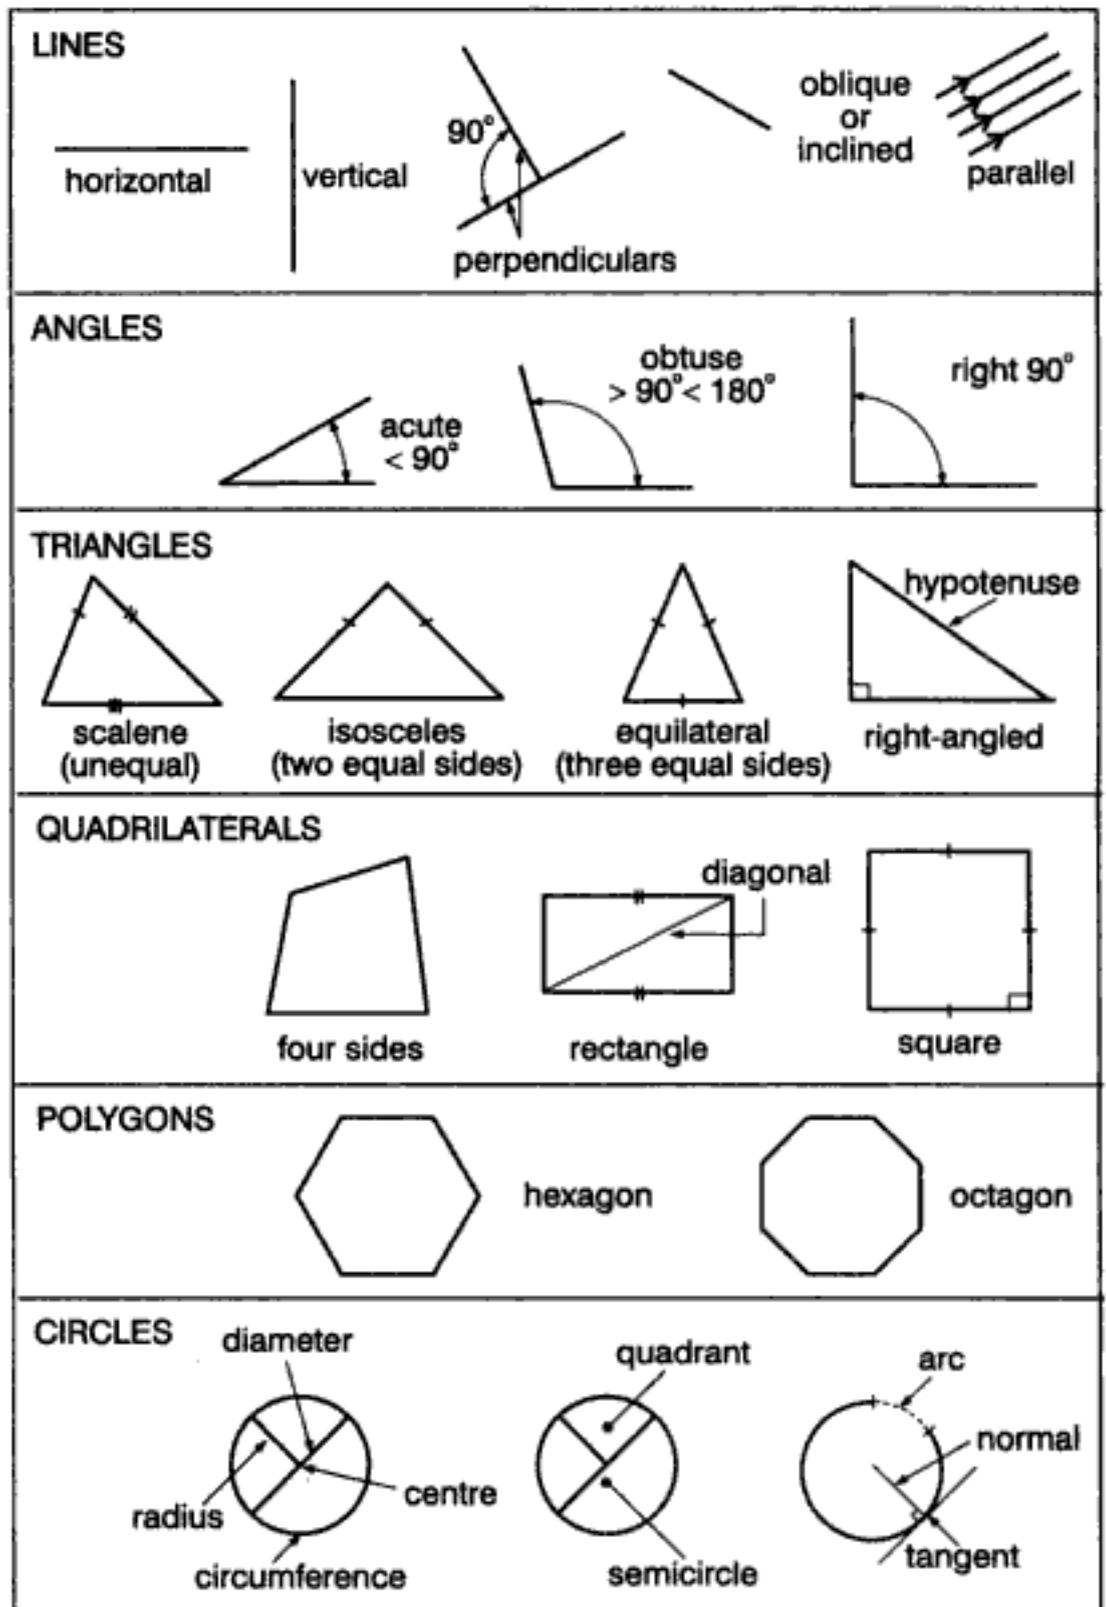

Fig 5.30
- ◇ Review the material presented in fig 5.30 and be sure that you are familiar with all the terms.